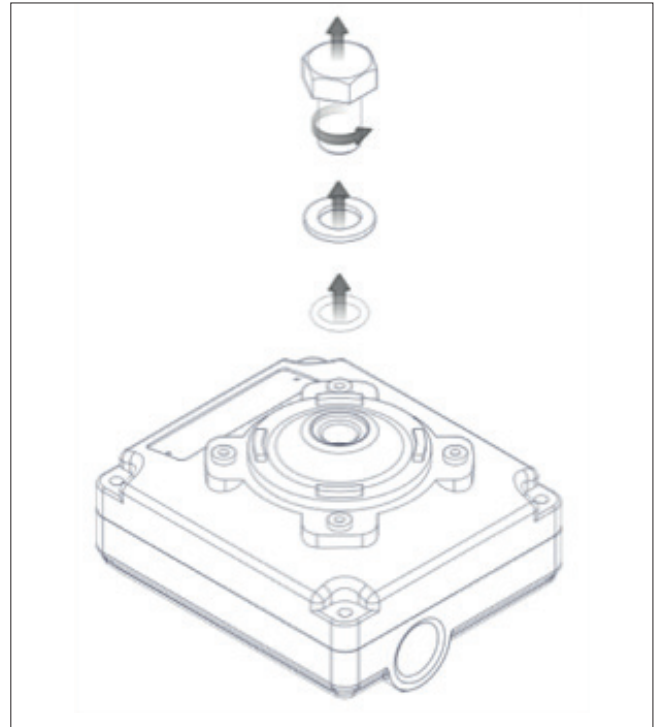

Figure 59. Remove the Hexagonal Bolt, Washer & O-ring
2. Disassemble the Hexagonal Bolt, Washer & O-ring from the Cover as shown in Figure 59